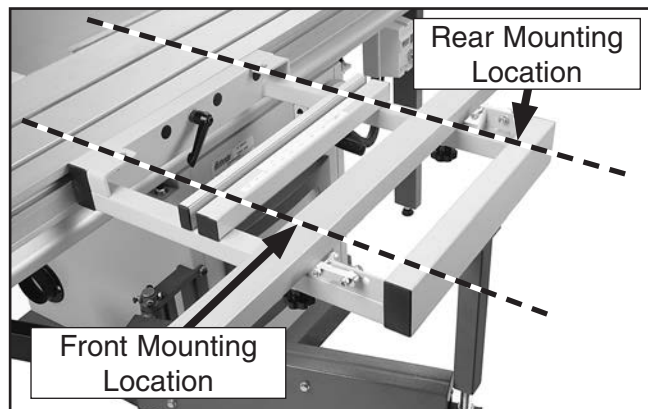

Figure 118. Crosscut fence mounting locations.
1. Install crosscut fence in front mounting location shown in **Figure 118**.
4. Load workpiece onto table saw in rear mounting location, shown in **Figure 118**. If necessary, use edge shoe to secure workpiece to sliding table.